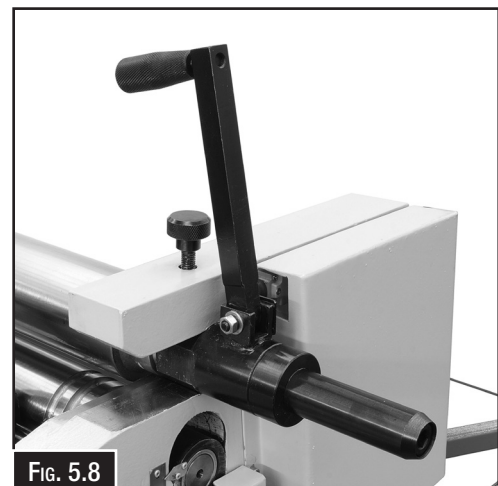

FIG. 5.8
The material once rolled will need to be removed from the rolls. To do this one of the rollers can be released at one end and the other end swings away from the machine. The picture in Fig. 5.8 shows the swinging roller handle.
1. Rotate release lever lock knob counterclockwise until upper roller release lever can be pulled down, and flat edges of upper roller bracket are parallel with slots in frame. The micro switch is now released and the power is disconnected. (Fig.5.8)